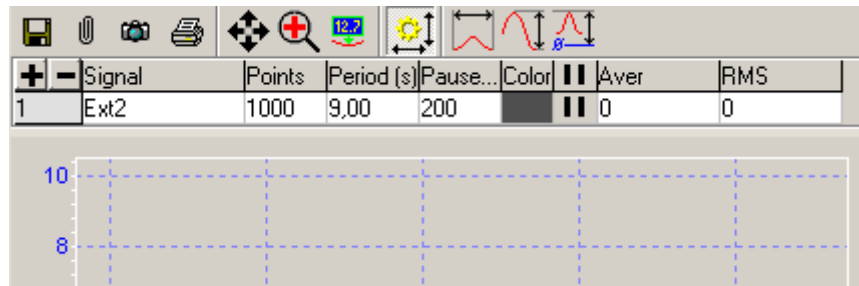

Fig. 12-22. Ext2 signal selected in the oscilloscope
- a. Choose **Ext2** in the **Signal** section of the oscilloscope at the bottom of the Auxiliary Area (Fig. 12-22).